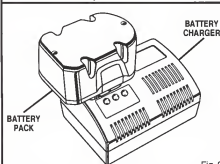

Fig. 9
- Place battery pack in charger. See Figure 9. Align raised rib on battery pack with groove in charger.